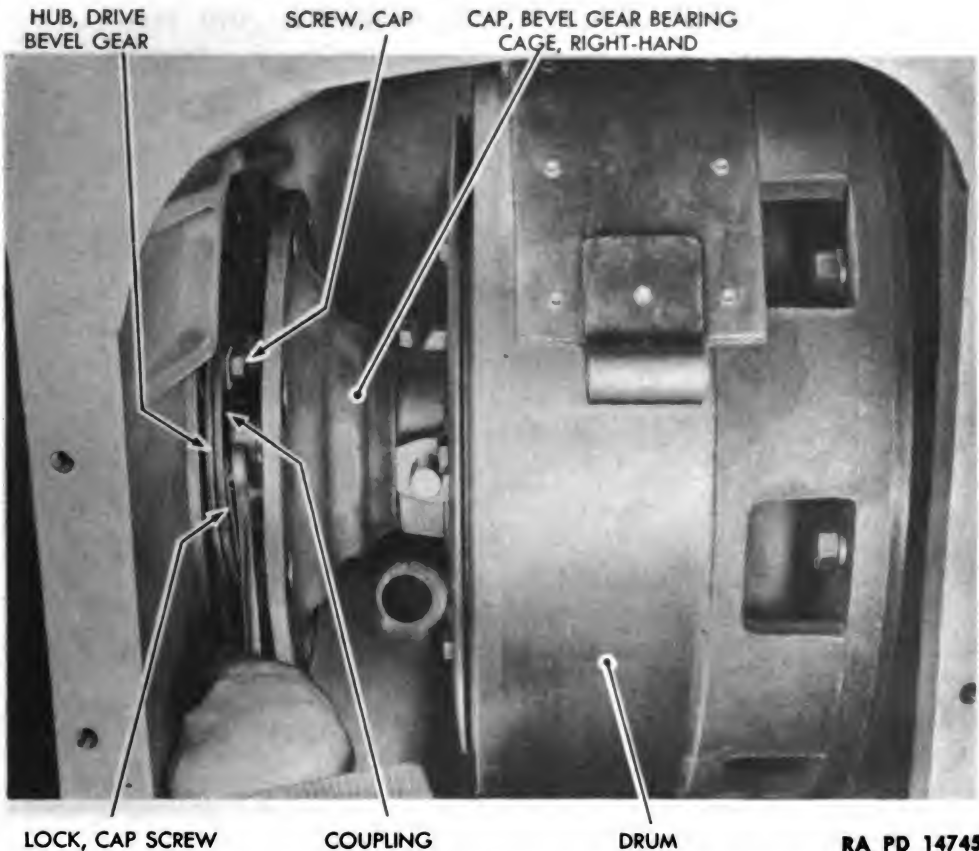

Figure 95 — Disconnecting Clutch Coupling from Bevel Drive Gear Hub
(14) DISCONNECT STEERING CLUTCH SHAFT COUPLING FROM DRIVE BEVEL GEAR HUB (fig. 95).